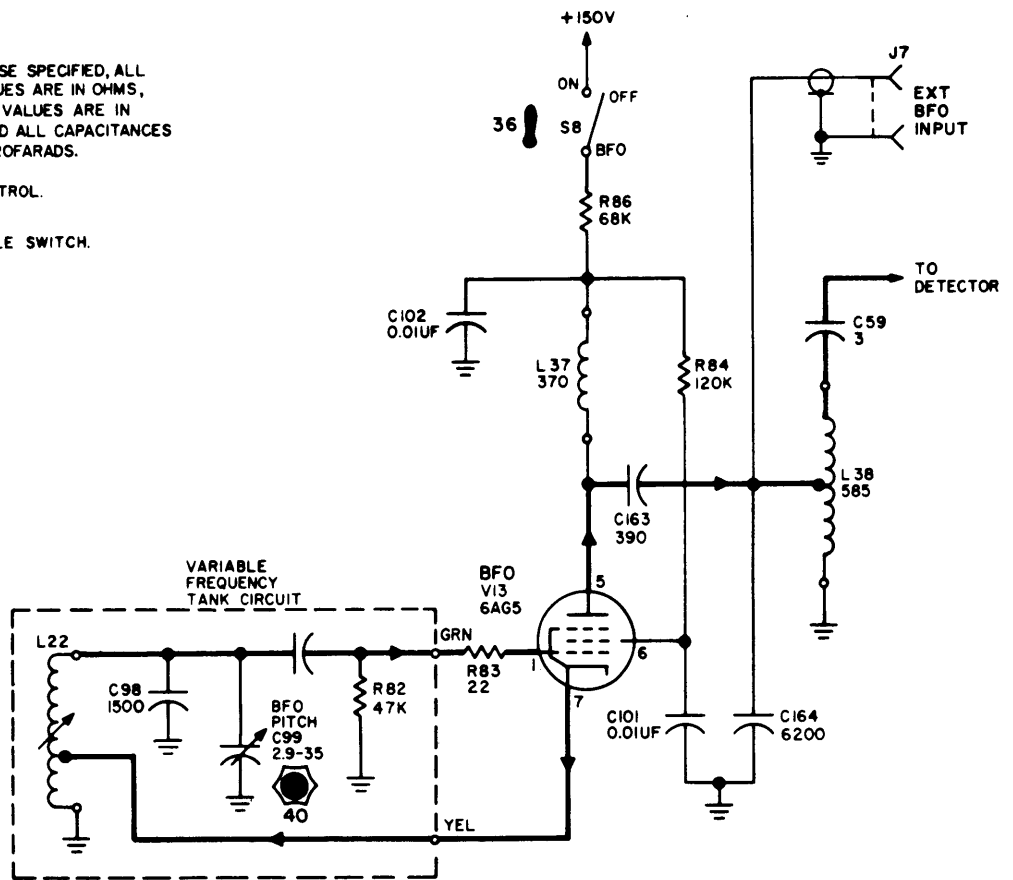

Figure 4-7. Schematic Diagram, GPR-90RXD, BFO
g. BEAT FREQUENCY OSCILLATOR. (See figure 4-7.) - The BFO, which is centered at 455 kc, is injected at the detector plate. The BFO stage, V13, is made operable by applying 150 volts to the plate end screen circuits with BFO switch S8 in the ON position. The output frequency may be varied ± 3 kc by adjusting BFO PITCH control C99.